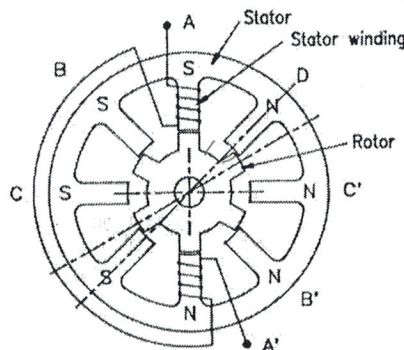

Figure 3 Variable reluctance stepper motor
- (c) (5) The step angle of a stepper motor is given by $\frac{360}{N_{rt}N_{sp}}$ in [degrees]. What are N_{rt} and N_{sp} ? Find the step angle of the VR stepper motor shown in Fig. 3. If the coils are switched on and off in the sequence of A-B-C-D, which direction does the rotor move and why (briefly explain)?